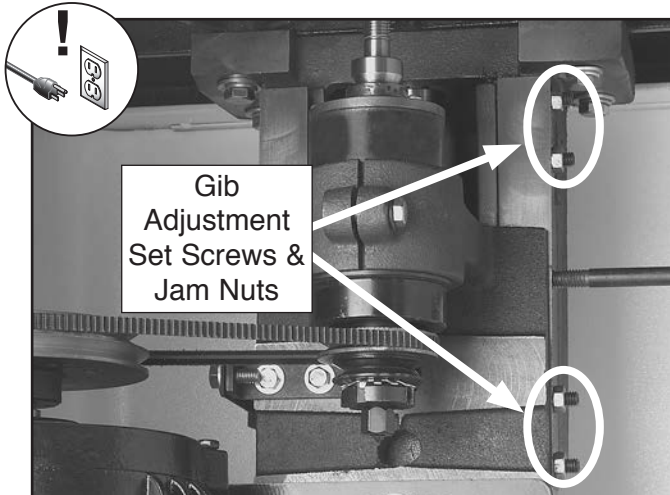

Figure 76. Location of set screws and jam nuts for adjusting gibs.
2. Loosen the jam nuts on the gib adjustment set screws (see **Figure 76**).